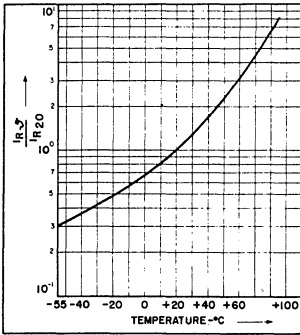

Figure 4
**LEAKAGE CURRENT** — Current measured through a 1,000Ω resistor with rated voltage applied for 3 minutes at +25°C. This current does not exceed 0.02 times capacitance (μF) times rated voltage (volts), or 1 μA, whichever is greater. At +85°C, typical leakage current is less than 10 times the value at +25°C. See figure 4.